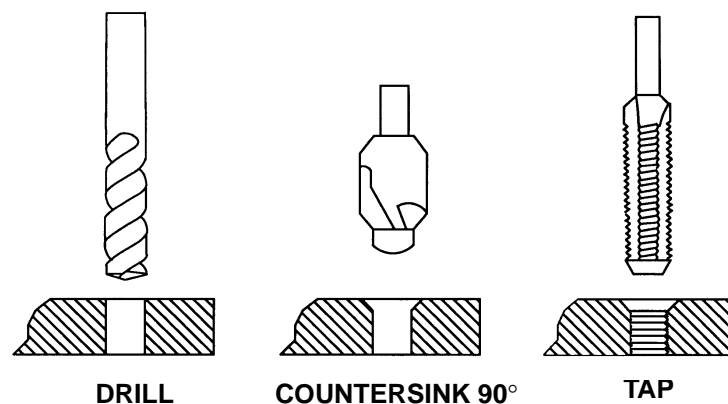

Figure 3 - Hole Preparation
5.2.1 Prepare holes as follows (see Figure 3):